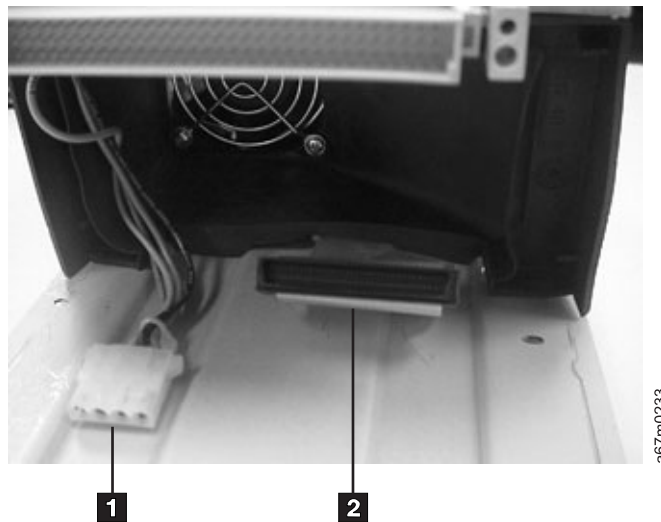

Figure 140. Unplugging Power and SCSI Cables
- ___ 6. Being careful to ensure that the 422 cable is guided over the rubber shroud, slowly pull out the drive far enough to disconnect the power **1** and SCSI cables **2** from the rear of the drive (see Figure 140 on page 300).